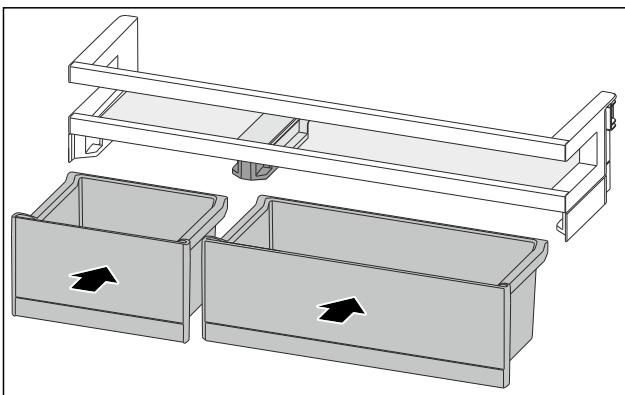

Fig. 86
- ▶ Insert the VarioBoxes opposite order. (see Fig. 86)